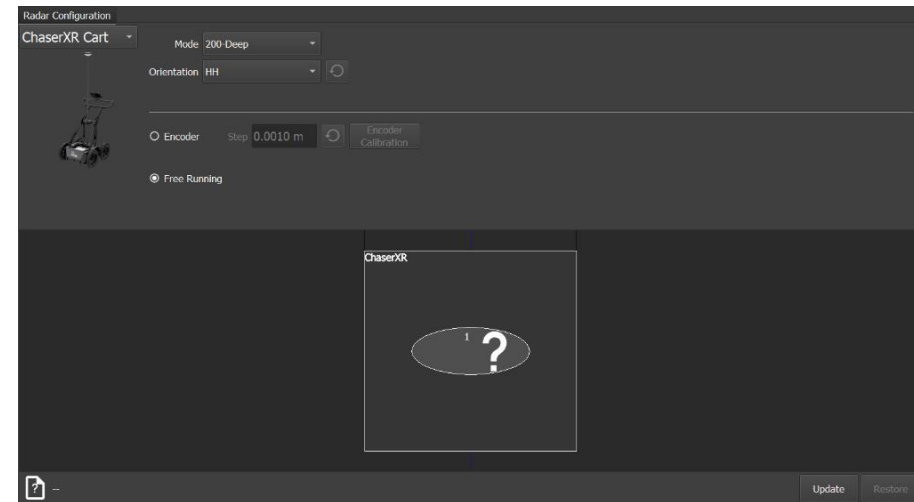
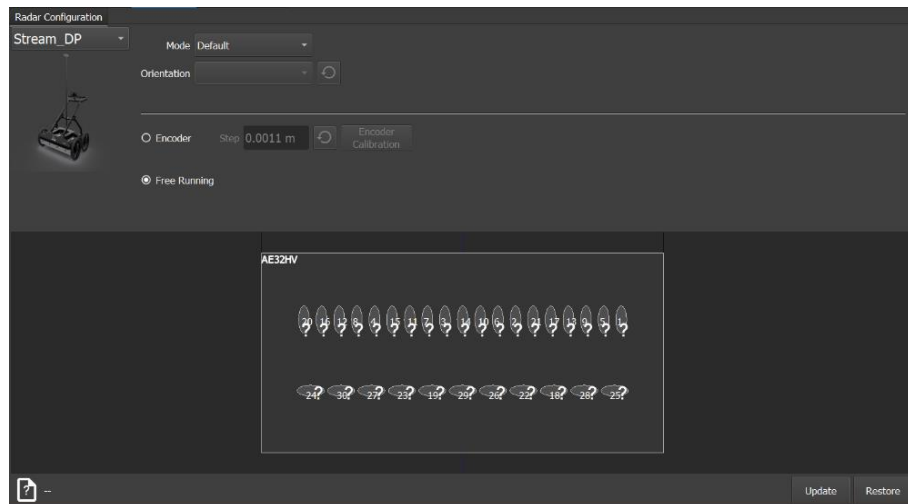
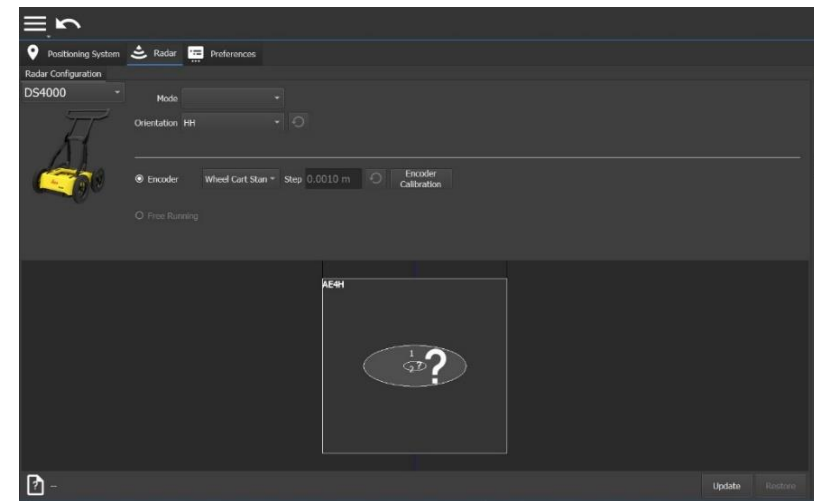

Fig. 15 Chaser XR radar configuration tab
Fig. 14 Stream DP radar configuration tab
Fig. 16 DS4000 radar configuration tab
- 1) the **Radar configuration** tab (Fig. 14, Fig. 15, Fig. 16, and
By the Radar configuration tab of **uMap-Logger** (Fig. 14, Fig. 15 , Fig. 16), it is possible to select if the acquisition is triggered by the **Encoder** or by time in **Free Running** mode (by activating the corresponding tick in the image below).